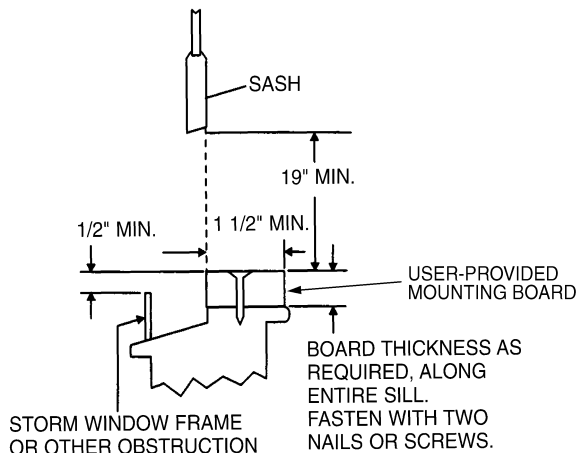

FIGURE 19 — STORM WINDOW APPLICATIONS
sill. See Fig. 19. The board will need to be provided and cut by the installer.
1. The wood mounting board should be a minimum of $1\frac{1}{2}$ -in. wide and should run the length of the window. The thickness of the mounting board is dependent on the height of the storm window frame. The mounting board should raise the front of the air conditioner high enough so that the unit will be pitched downward at least $\frac{5}{8}$ -in. when the back of the unit is resting on the storm window frame. See Fig. 19.